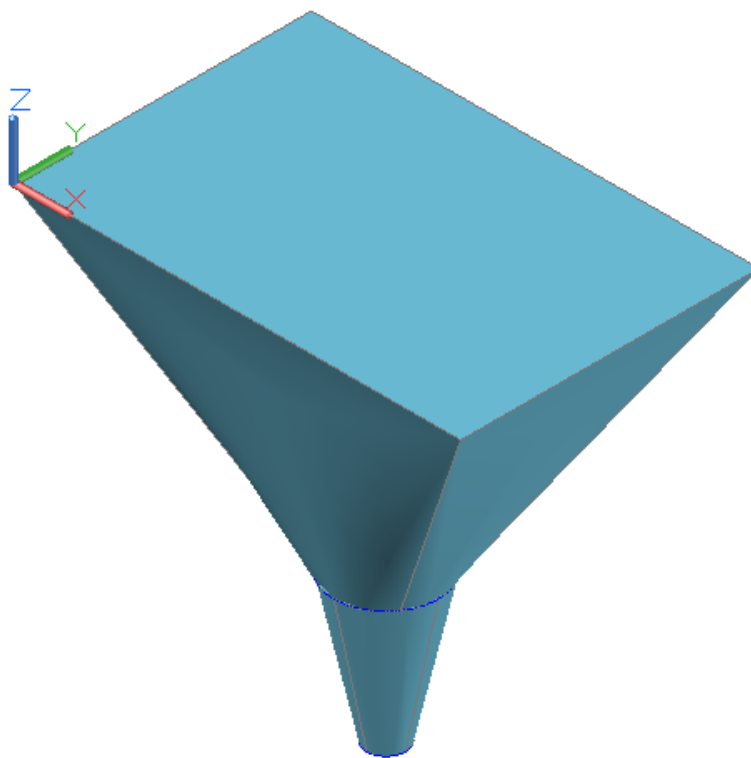

Figure Step 3
Step 3 Union the solids to create one single solid model. (Figure Step 3)